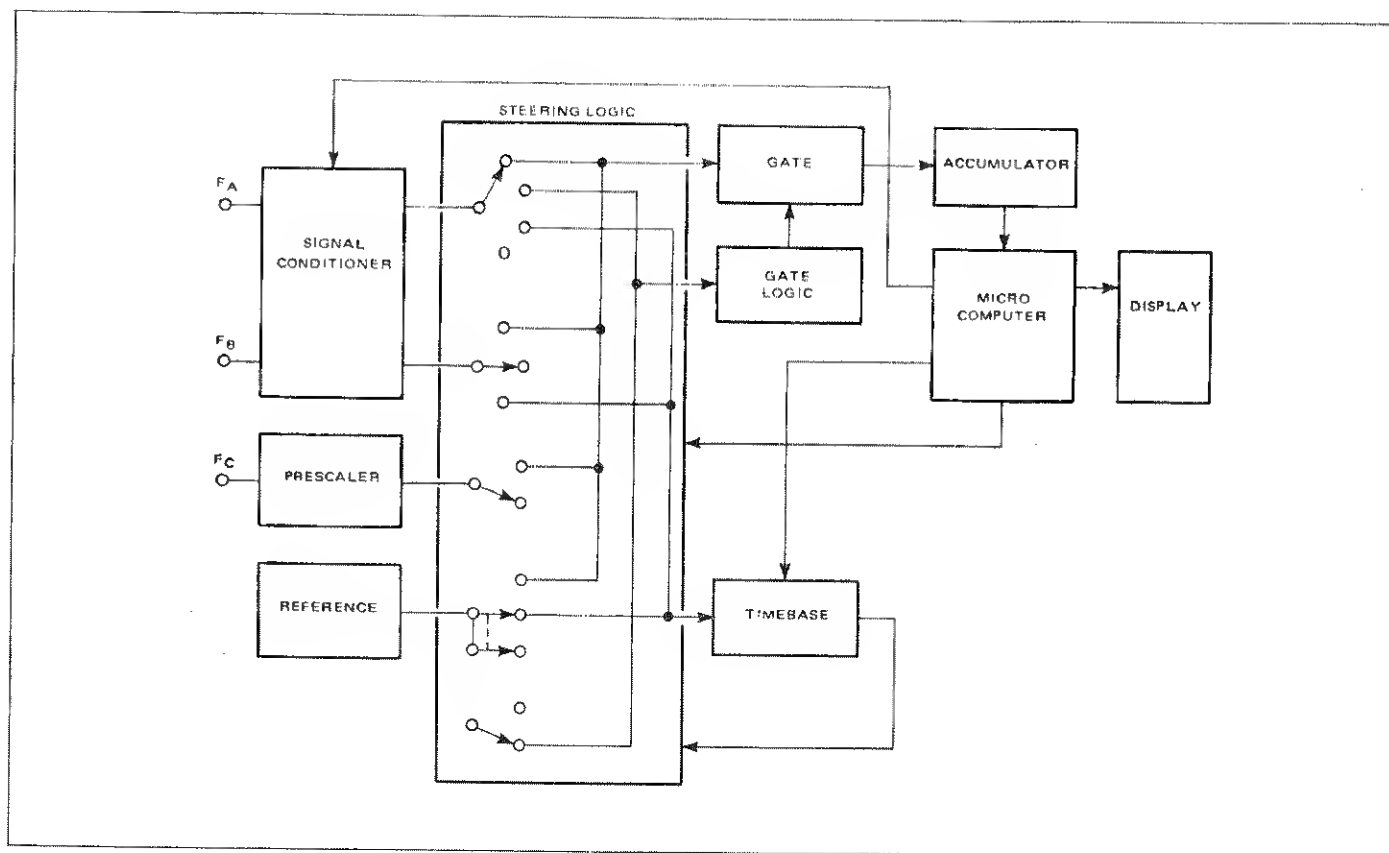

Figure 1.3 - 9000 Block Diagram
1.4.1 The Model 9000, shown in simplified form in figure 1.3, consists of the following functional blocks: Signal Conditioning circuitry that scales, generates a squared wave output from the input signal, and selects the points on the incoming signal that determine the characteristics of the squared wave output; a stable and accurate 100 MHz reference frequency; an adjustable timebase that allows the signal applied to it to be divided by 1, 10, or some multiple of 10; gate logic that converts a signal input into a corresponding time period; a gate (controlled by the gate logic) that regulates the flow of pulses to the accumulator; an accumulator that counts a signal applied to it and stores the binary value of the count; a microcomputer that controls the operation of the counter, performs any programmed arithmetic operations, and routes the data in the accumulator to the display; the display that provides in visual form the numeric value of the binary data stored in the accumulator as well as the status of the timebase, signal conditioners and other instrument operations.